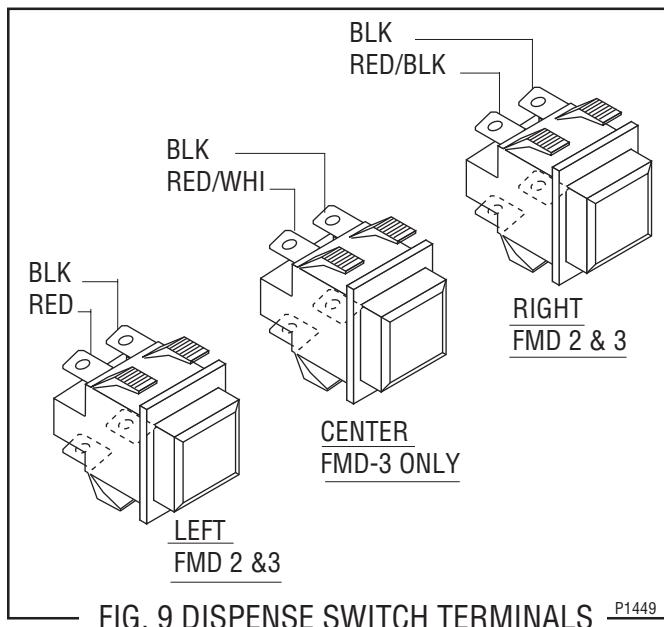

FIG. 9 DISPENSE SWITCH TERMINALS
8. Refer to Fig. 9 when reinstalling wires.